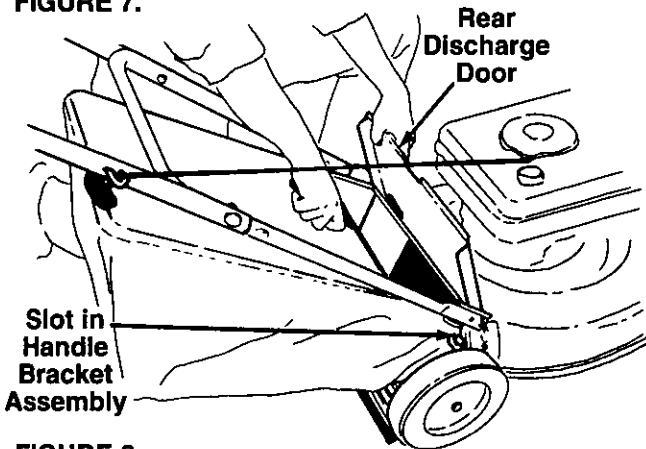

FIGURE 8.
2. Place the hooks on the grass catcher into the slots in the handle bracket assemblies. See figure 8. Release the rear discharge door.